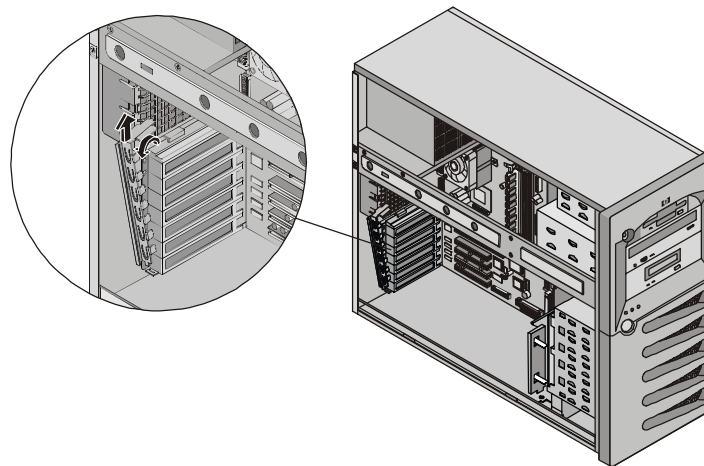

Figure 3-20. Removing IO Locking Bracket
6. Remove the IO locking bracket. See Figure 3-20.